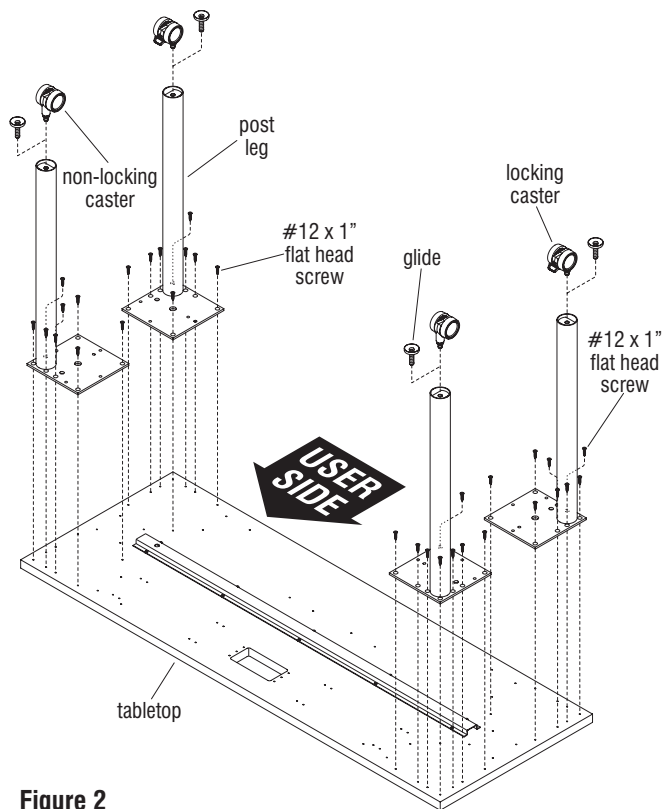

Figure 2
3. Position each post leg over pre-drilled mounting holes in the underside of the tabletop as illustrated. Secure the post legs to the top using eight #12 x 1" flat head screws through each base (Figure 2).
4. Locking and non-locking casters are provided. Locking casters shall be installed to the legs along the front user side of the table, and non-locking casters shall be installed to the legs along the rear side of the table. Use a 19 mm open-end wrench to tighten casters to the foot of each leg (Figure 2).